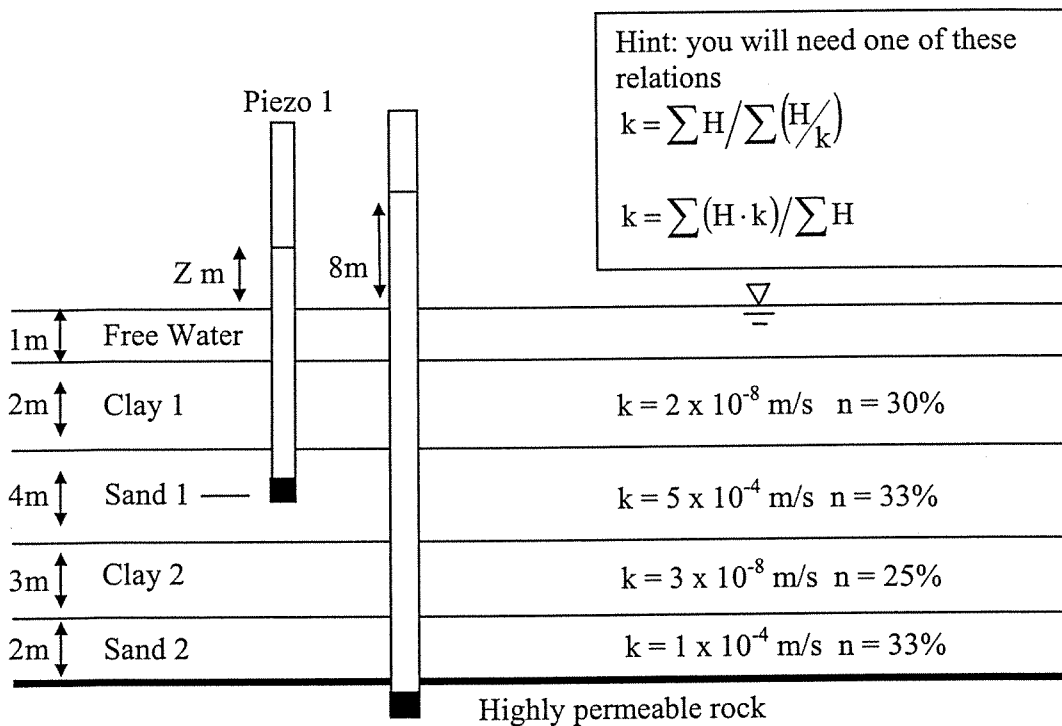

Figure Q.1
1. With reference to Figure Q.1, two standpipe piezometers are installed in a system with two sandy aquifers, confined by clay layers. The position of the water in the piezometers is shown on the figure. The intake of piezometer #1 is located exactly in the middle of the sand layer #1. Flow through the system is vertical (only) and driven by the permeable rock and free water boundaries (both constant head boundaries) below and above respectively.